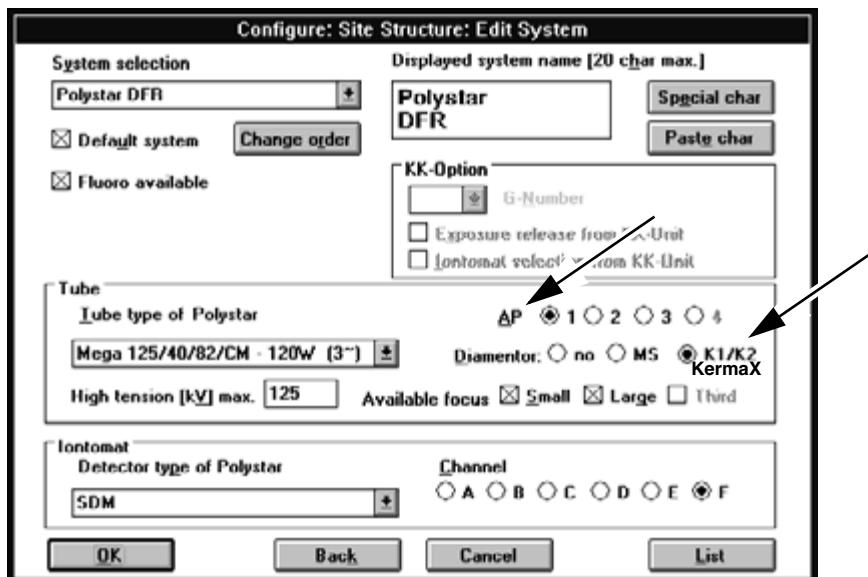

Fig. 6:
- Configure the KermaX dose area product test instrument (corresponds to the Diamentor K1/K2) according to the connected workstation (arrow/Fig. 6 / p. 10).